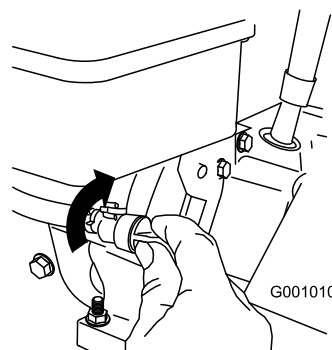

Figure 30
3. Close the fuel shutoff valve by rotating it clockwise (Figure 30).